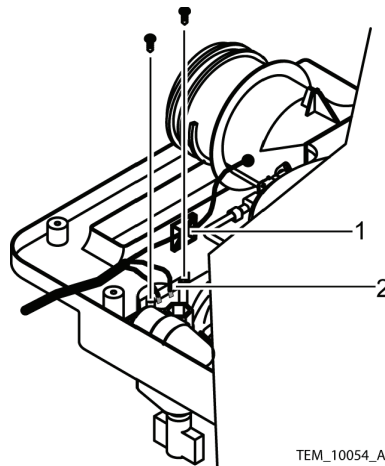

Figure 65. Thermistor Cable Removal
19. Remove the thermistor cable terminal board. See Figure 65, item 2.
20. Cut the cable tie on the thermistor cable. See Figure 65, item 1.